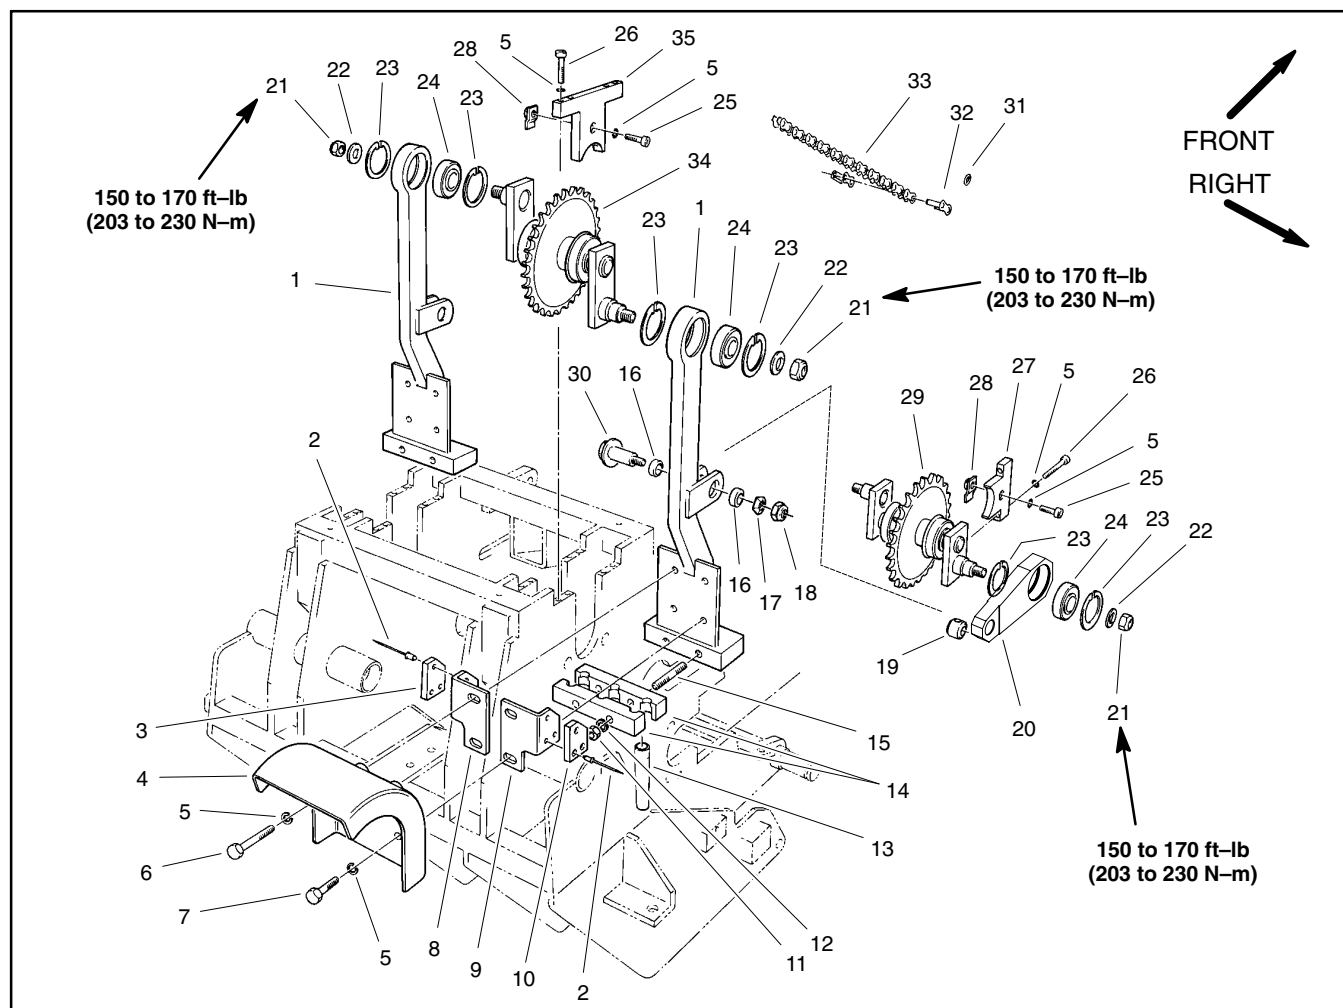

Figure 7
### Removal (Fig. 7)
5. Remove lock nut (item 21) and flat washer (item 22) that secure tine arm to upper crank arm (item 34).
6. Remove lock nut (item 21) and flat washer (item 22) that secure connecting rod to lower crank arm (item 29).
8. Dissassemble tine arm using Figure 7 as a guide.
### Installation (Fig. 7)
1. Assemble tine arm using Figures 7 and 8 as guides.
- A. If stud (item 14) was removed from tine arm, apply Loctite #271 (red) (or equivalent) to threads of stud before installing stud into tine arm.
- B. If connecting rod (item 20) was removed, install rod with the straight side down.
- C. When installing shoulder bolt (item 30), align the bolt head to the center of coring head.
3. Install flat washer (item 22) and lock nut (item 21) to crank arms to retain tine arm and connecting rod. Torque lock nuts from 150 to 170 ft-lb (203 to 230 N-m).